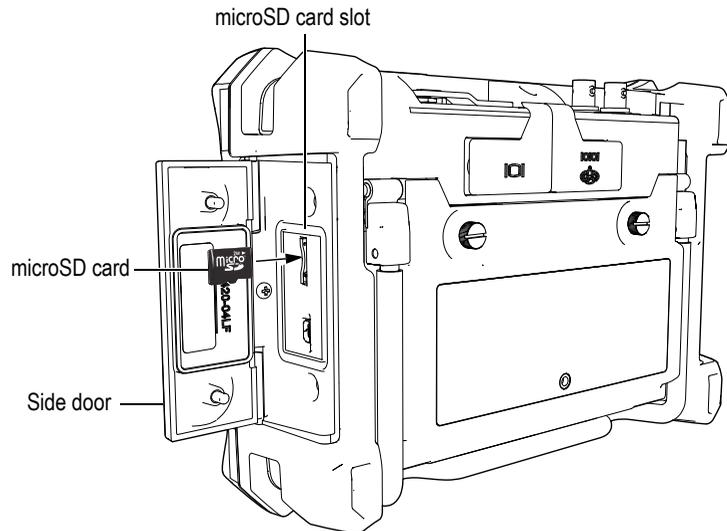

Figure 1-19 Installing the microSD card
2. Loosen the two thumb screws, and then open the computer connection protective cover (see Figure 1-19 on page 39).